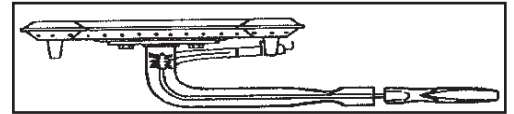

Fig. 7
3. Clean the venturi tubes with a pipe cleaner or venturi cleaning tool. (Fig. 7)